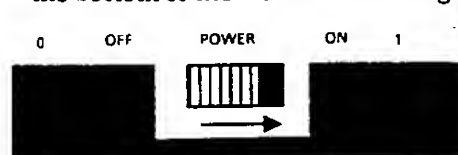

Figure 740-4 PC-8300 Battery Backup Switch
5. Turn ON the battery backup switch located on the bottom of the PC-8300. See Figure 740-4.